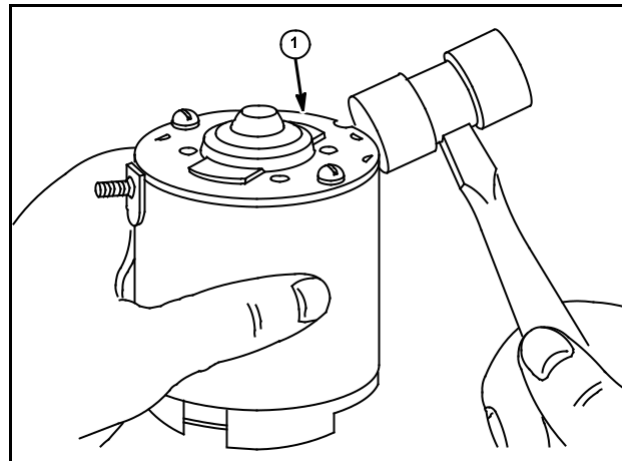

Fig. 40
14. Tap end cap edge (1) lightly using a soft hammer to align the bearings, Fig. 40.